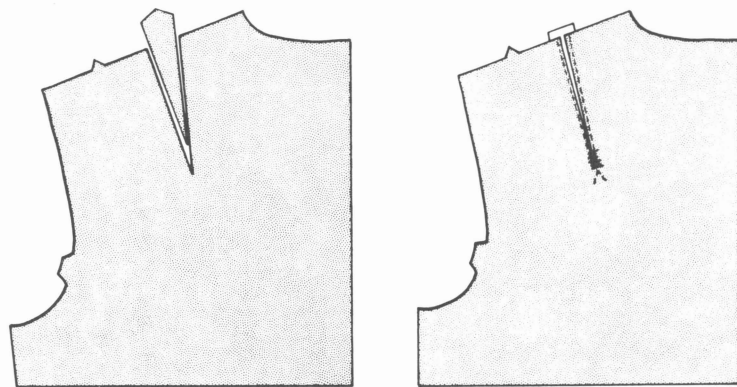

Figure 8. Abutted dart.
- **Abutted Method.** Entirely cut out dart along the stitching line; pin edges to meet over a piece of seam tape slightly longer than the dart; stitch close to edges; zigzag at the point to reinforce (Figure 8).